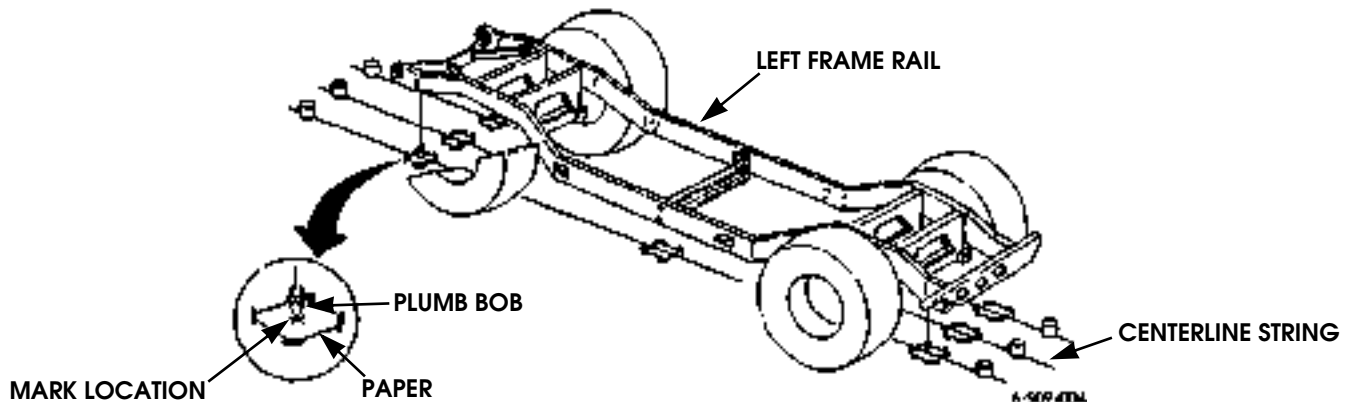

Figure 9-154: Horizontal (Bowling) Measurement
3. Hang a plumb bob at the corner of one frame rail where the frame rail intersects the crossmember. Tape a piece of paper to the floor under plumb bob and mark location where plumb bob stops moving. Repeat procedure for each corner of the frame (Figure 9-154).
4. Stretch string tightly on floor between front and rear plumb bob marks under each frame rail (Figure 9-154).
5. Measure front and rear crossmembers to determine center point. Drop a plumb bob from crossmember center points to the floor. Mark location where plumb bob stops moving (Figure 9-154).
6. Stretch a string tightly on floor between front and rear plumb bob marks under crossmembers to determine centerline (Figure 9-154).